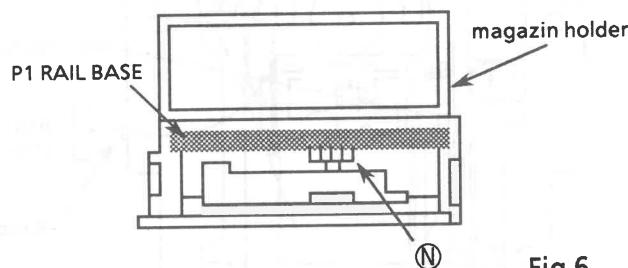

Fig.6
8. Removing the P1 RAIL BASE Ass'y (Fig.6,8)
- 1) Rotate the gear ⑩ clockwise a little.
- 3) Remove the screw ⑪.
9. Removing the P1 RAIL BASE (Fig.6,7,8)